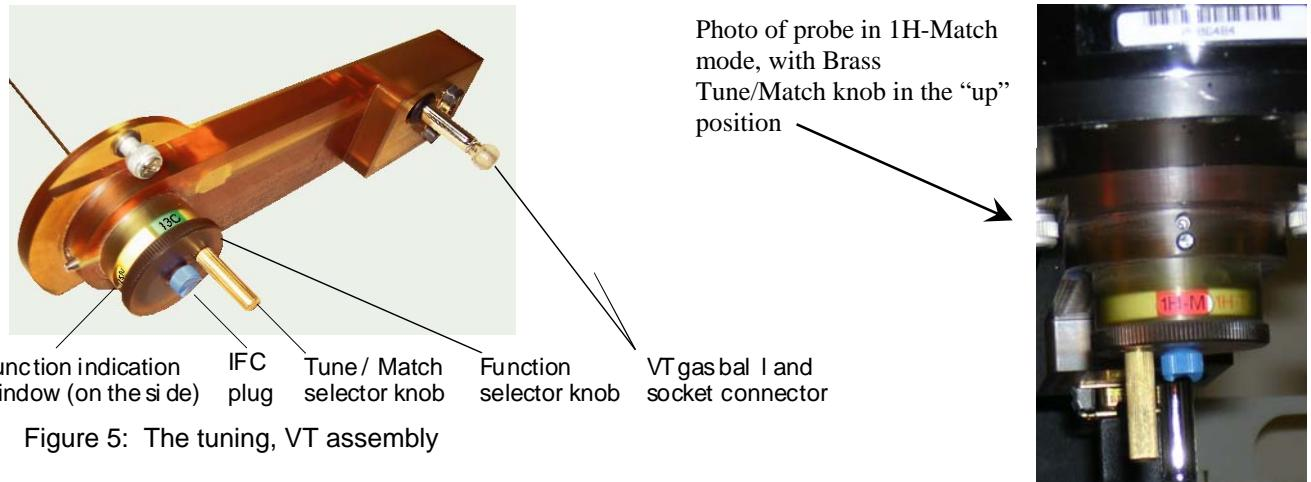

Figure 5: The tuning, VT assembly
- At the probe, the mechanics of tuning are different. Refer to Figure 5, which shows the tuning assembly at the bottom of the probe.
- Once the “Channel” has been chosen for tuning (and the reflected power is displayed on the tune-meter), and all cabling is properly configured, the reflected power is minimized using the “Tune/Match selector knob” (Figure 5).